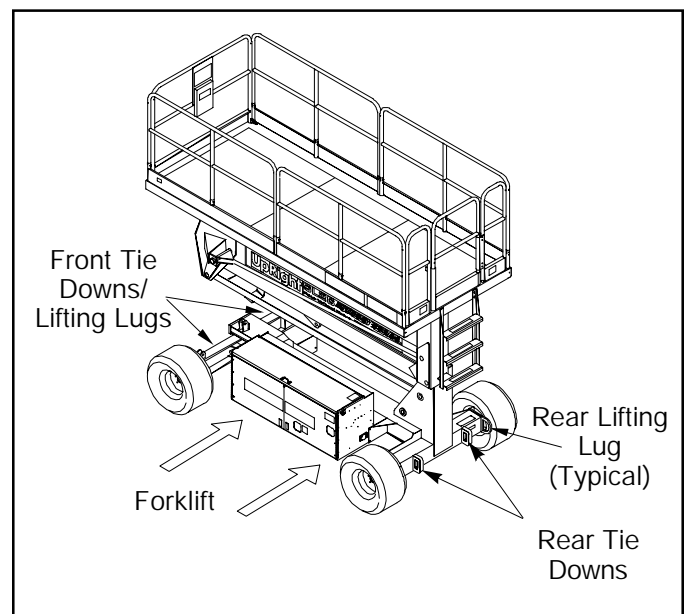

Figure 5: Transporting Work Platform
Forklift from side of Chassis by lifting under the Chassis Modules (Figure 5).
Secure straps to Lifting Lugs only (Figure 5).
2. Secure the work platform to the transport vehicle with chains or straps of adequate load capacity attached to the chassis tie down lugs (Figure 5).